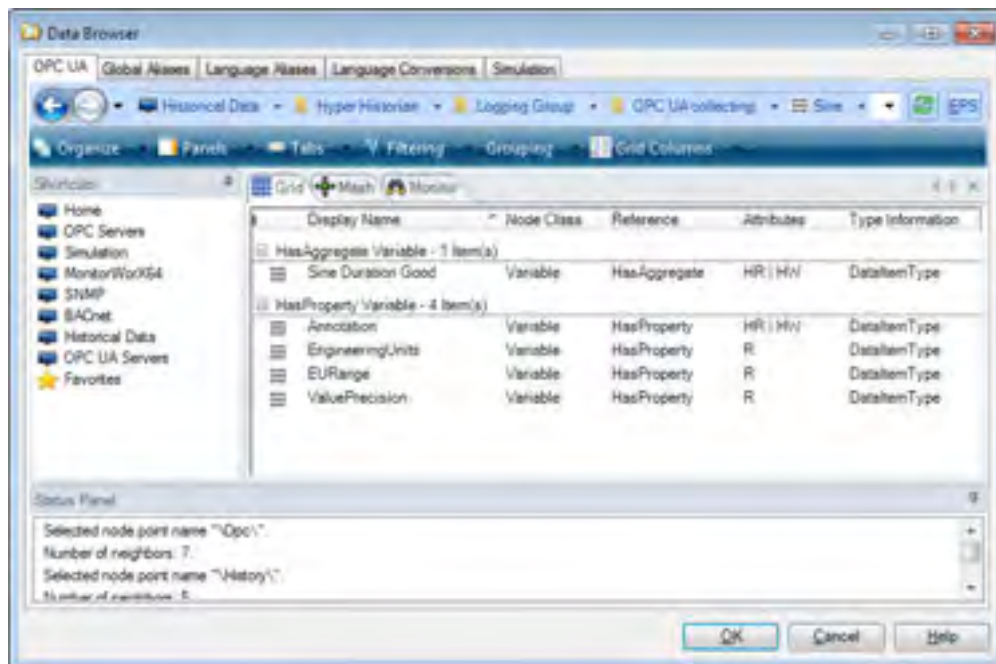

Figure L1.7 - Data Browser
9. On the right side, double-click Hyper Historian → Logging Group → OPC UA collecting. For demonstration purposes in this trend example, we are going to double-click on Sine. So go ahead and click on it. The Browser will look something like the example shown in Figure L1.7.